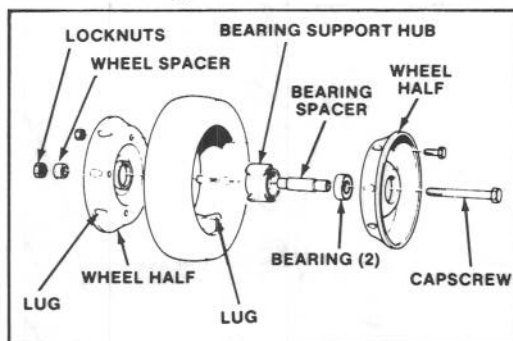

Figure 22
1. Remove capscrew, wheel spacer, and locknut mounting wheel to pivot arm (Fig. 22).
2. Separate wheel halves from tire by removing (4) flange capscrews and locknuts. (Fig. 22).
1. Position tire onto (1) wheel half aligning lugs on each (Fig. 22)